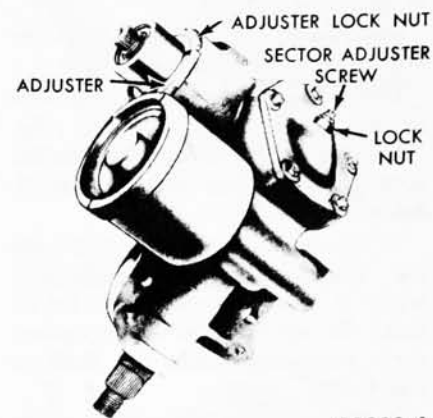

FIG. 18—Pre-load and Mesh Load Adjustments
10. If total over center meshload is not within 15-17 in-lbs, loose the sector adjuster lock nut (Fig. 18) and turn the adjuster screw to obtain proper adjustment.